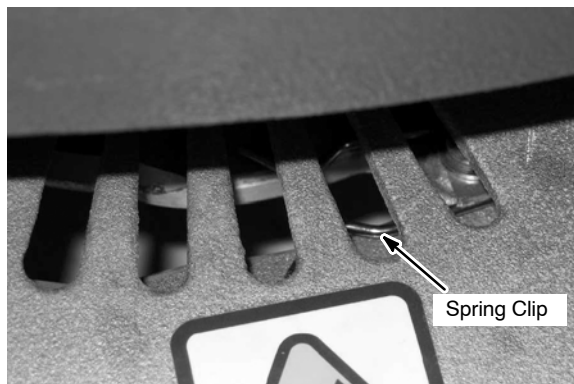

FIG. 8
4. Turn the brush motor hub until the slot with the spring clip is visible through the scrub head window (Figure 8).